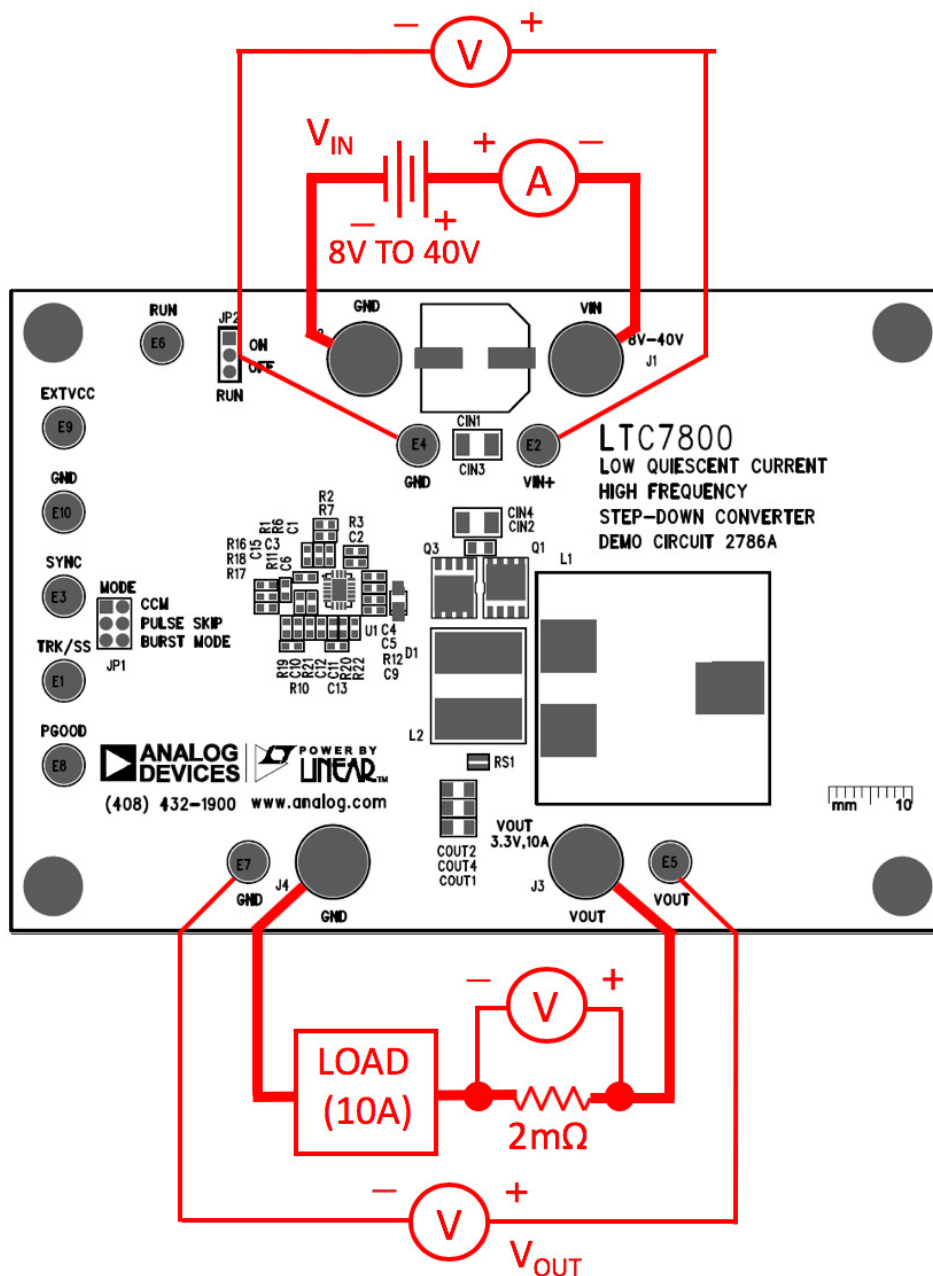

Figure 2. Proper Measurement Equipment Setup
Demonstration circuit 2786A is easy to set up to evaluate the performance of the LTC7800. Refer to Figure 2 for the proper measurement equipment setup and follow the procedure below.
2. Connect the output loads between VOUT and GND (**Initial load: no load**). Refer to Figure 2.